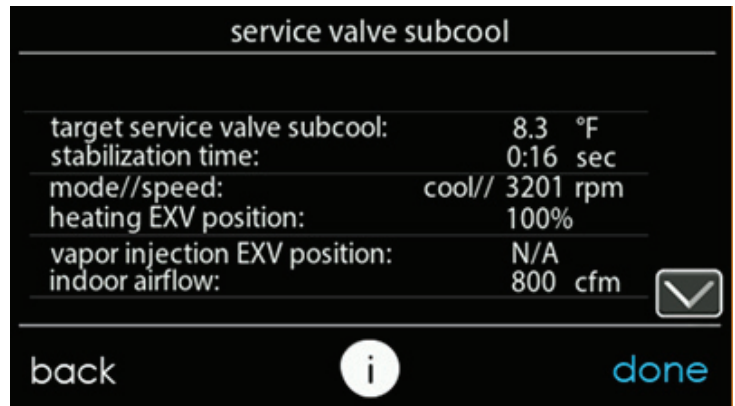

Fig. 14 – Charging Mode Information Screen
7. Upon selecting "Start" the system will enter into charging mode. The outdoor compressor and fan will operate at a fixed speed and the UI will display a stabilization time (see Fig. 14). Once this clock reaches zero the charge can be adjusted to meet the target subcooling.